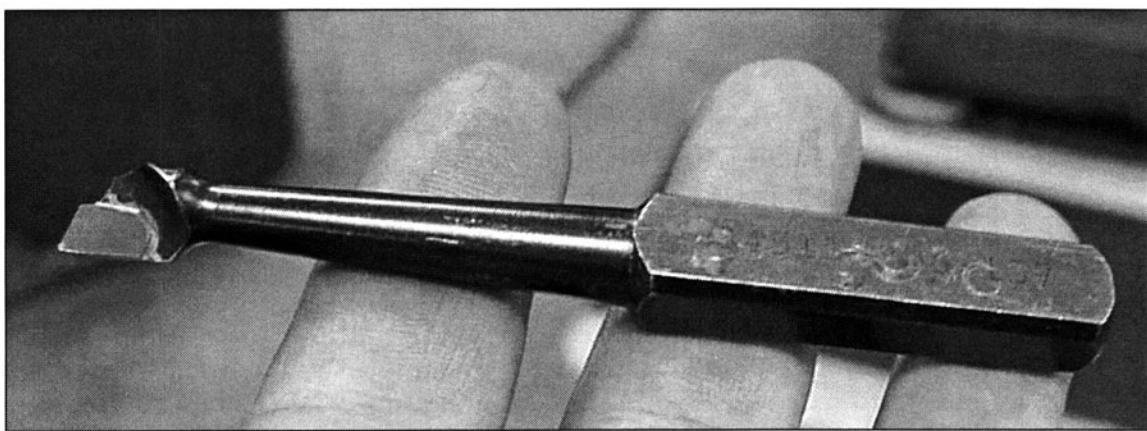

FIGURE 7-7 Square shanked boring bars can be mounted in lathe tool holders as well as boring heads.
8. *Purchase square shanked boring bars for more versatility. (See Fig. 7-7)*